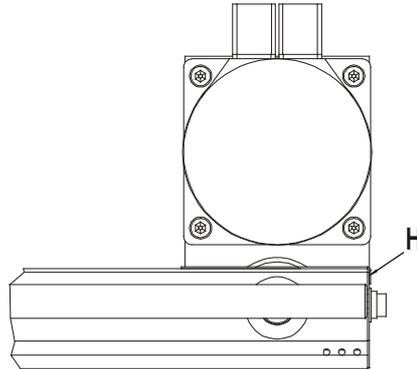

Figure 27: Belt gear, motor-side view
- Remove the motor-side front sheet with plug (see *Figure 27*, bottom, **H**).
- Remove the motor-side angle plate (see *Figure 27*, *page 28*, **H**).
- Attach angled plate again (see *Figure 27*, *page 28*, **H**).
- Remove the motor-side angle plate (see *Figure 27, page 28*).
- Remove the motor -side angle sheet (see *Figure 27, page 28, H*).
- Attach angle plate (see *Figure 27, page 28, H*).